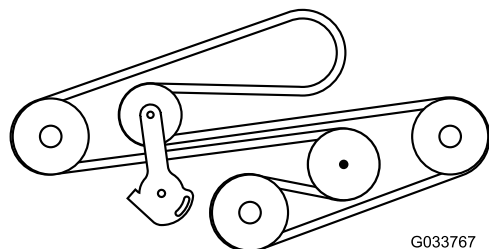

Figure 66
7. Install the belt and route it as shown in Figure 66.